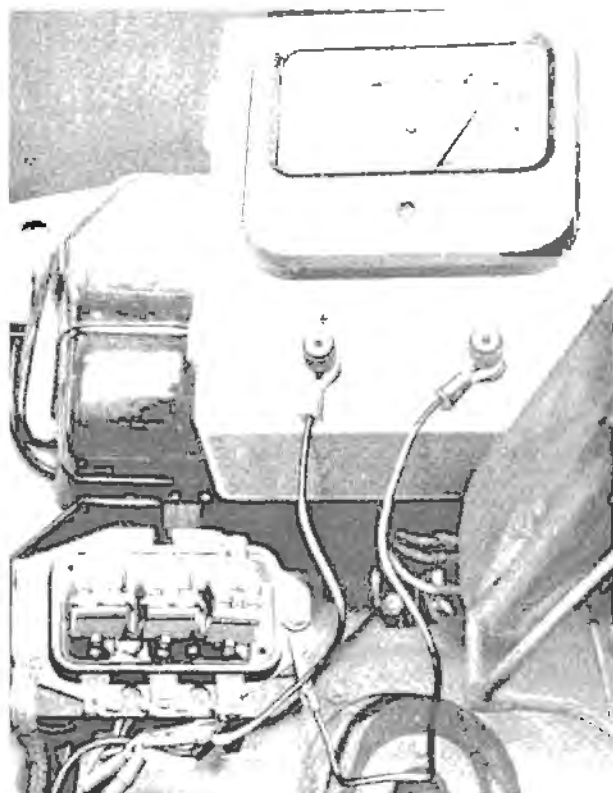

Fig. M.4.—Dynamo Voltage Test.
- (ii) Disconnect the cables from dynamo at control box. Connect and test as shown in Fig. M.4.